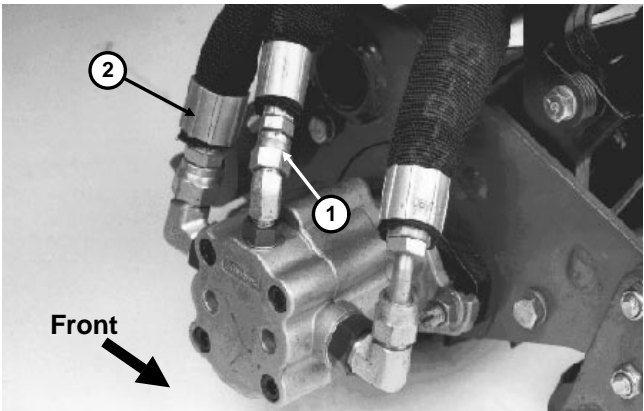

Figure 23a
- 3. Disconnect the motor case drain hose (small diameter hose) where it connects to traction unit (not at the motor). Put a steel cap on the fitting at the traction unit. leave the case drain hose open (Fig. 23a)
- 4. Disconnect hose from outlet of motor to be tested. Put a steel cap on the motor fitting. Put a steel plug in the disconnected hose (Fig. 23a).